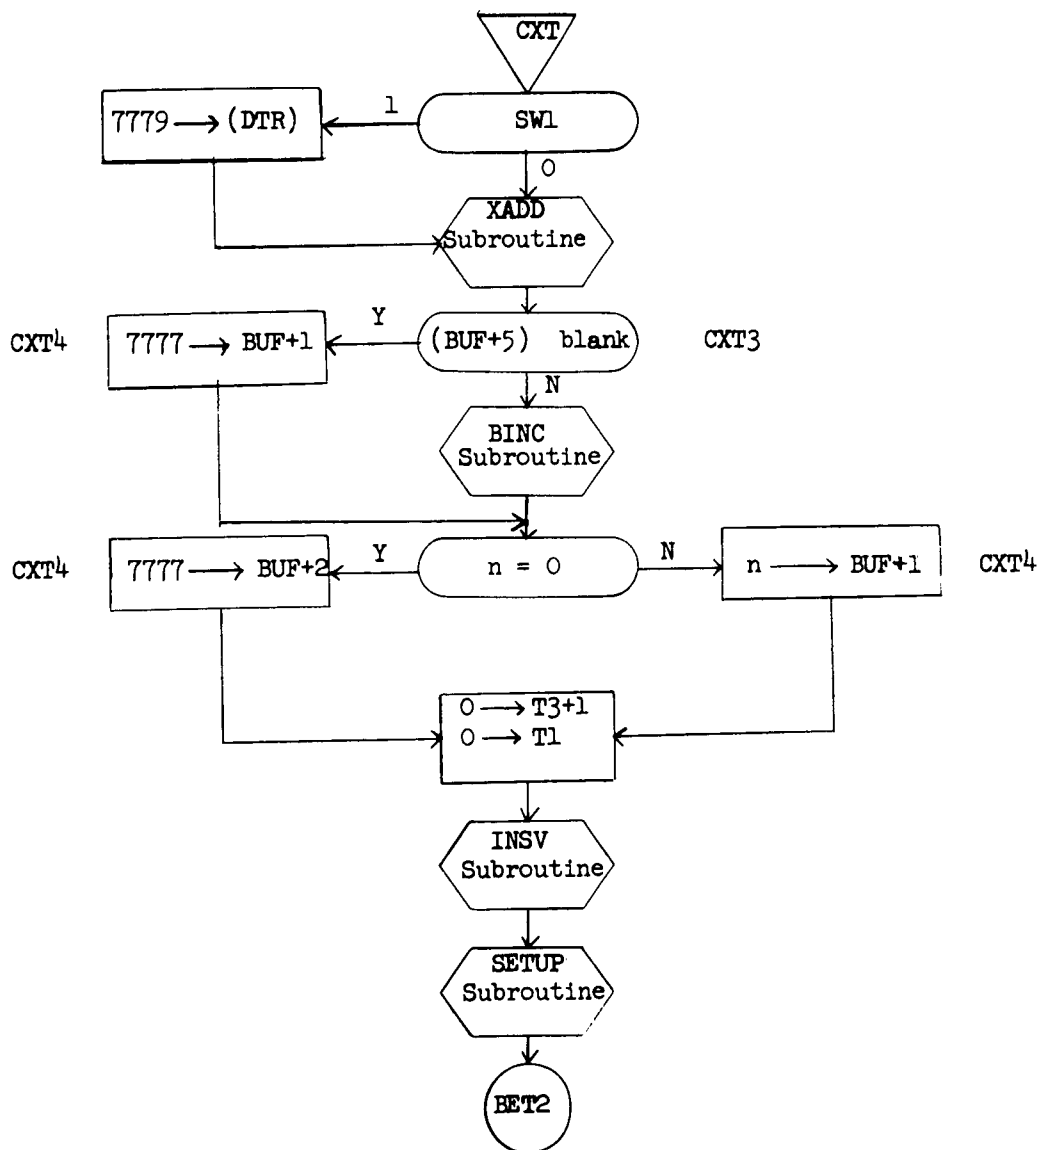

Figure 7.14 CXT
7.2.3.11 CXT TRAP COMMAND (Figure 7.14)